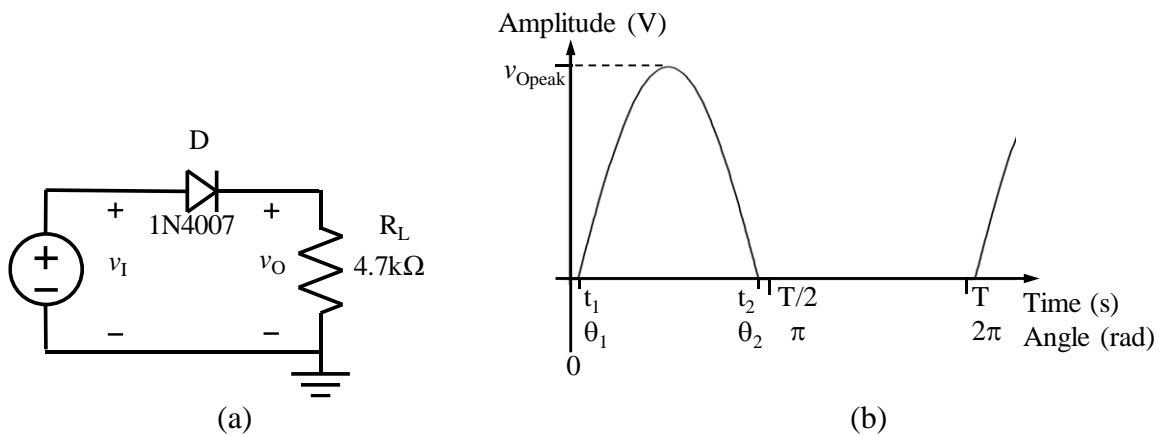

Fig. 1. Half-wave rectifier (a) circuit and (b) output waveform.
1. Perform the following calculations for the half-wave rectifier in Fig. 1. Put your results in Table 1.